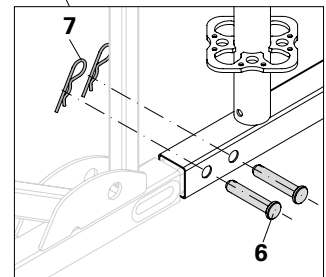

Fig. A1.03a
- Insert Bolts (**6**) – from the outside to the inside – through the holes of the bottom chord and secure with cotter pins (**7**) – 2x. (Fig. A1.03a)